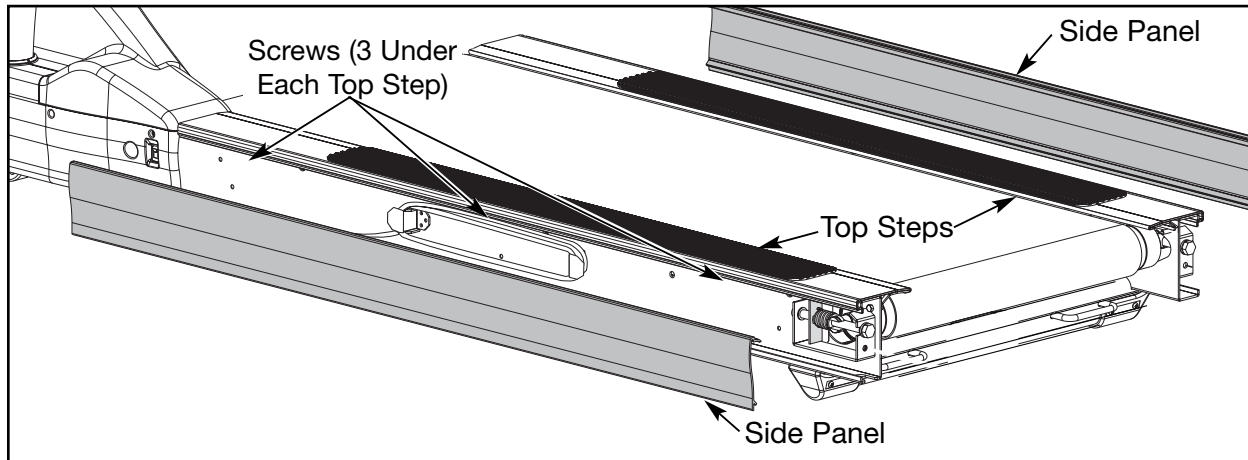

Figure 5
A. Pull each side panel out and off the treadmill. See Figure 5.
A. Using a Phillips head screwdriver, remove the three screws that hold one of the top steps in place. Repeat this step for the other side. See Figure 5.
B. Grasp each top step and slide it out and off the treadmill. See Figure 5.
- A. Place each side panel into position on the bottom edge and use your hand to push all along the top edge of the side panel to snap it in place. See Figure 5.